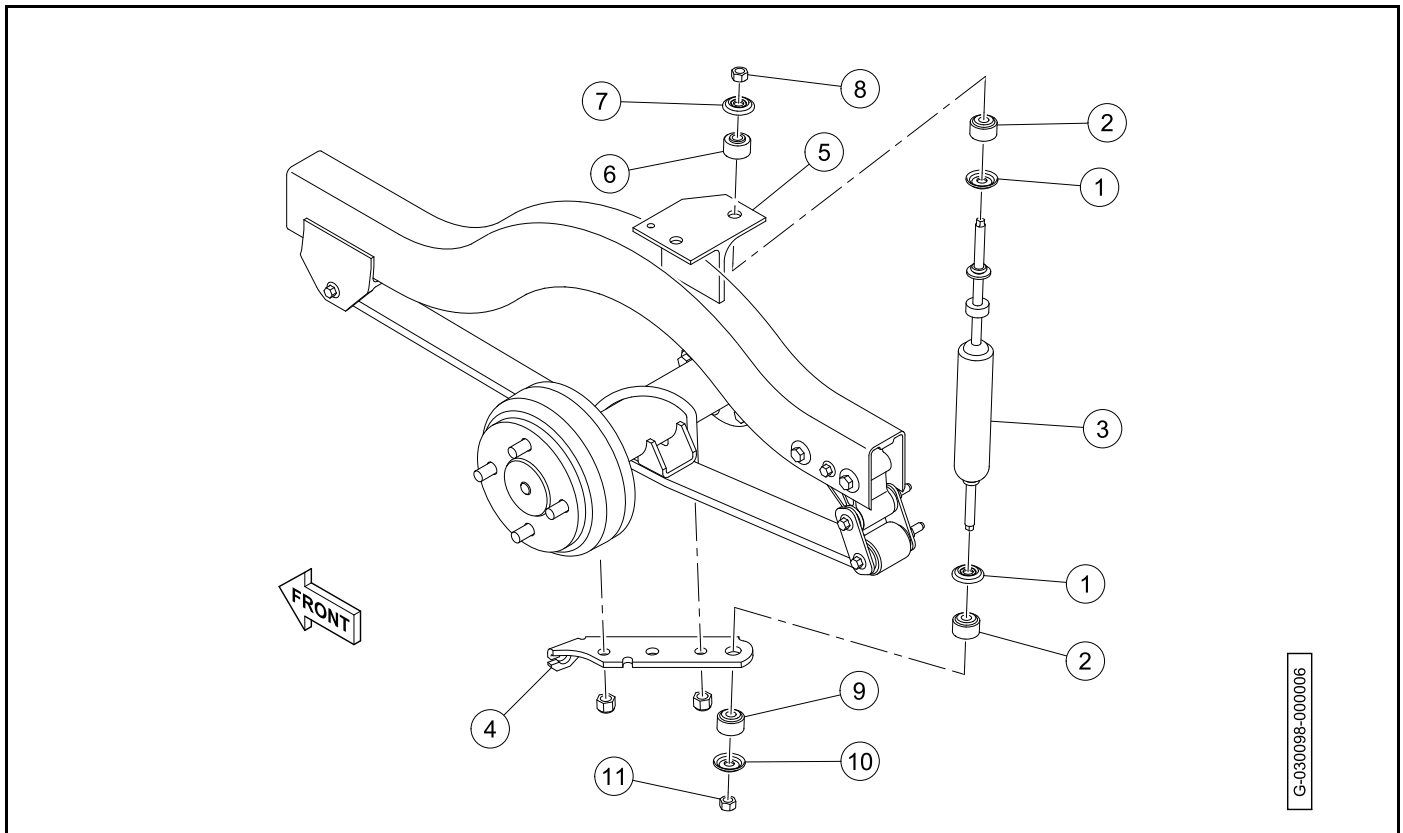

Figure 9-3 Rear Shock Absorber Installation
1. Install the cup washers (1) and rubber bushings (2) onto the shock absorber (3) (**Figure 9-3, Page 9-3**).
2. Install the bottom stem of the shock absorber into the shock mount bracket (4).
3. Install the top stem of the shock absorber into the frame shock mount (5).
4. Install the rubber bushing (6), cup washer (7), and nut (8) onto the top of the shock absorber.
5. Install the rubber bushing (9), cup washer (10), and nut (11) onto the top of the shock absorber.